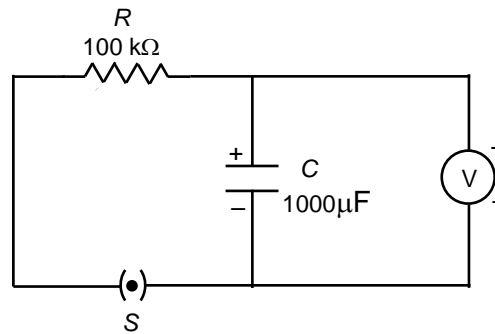

Fig. 3.5: A circuit for studying the discharging of a capacitor.
10. Remove the voltage source and connect its two leads together to get the circuit as shown in Fig. 3.5. Take care while handling the circuit, as the charged capacitor may give shock if touched by hand.